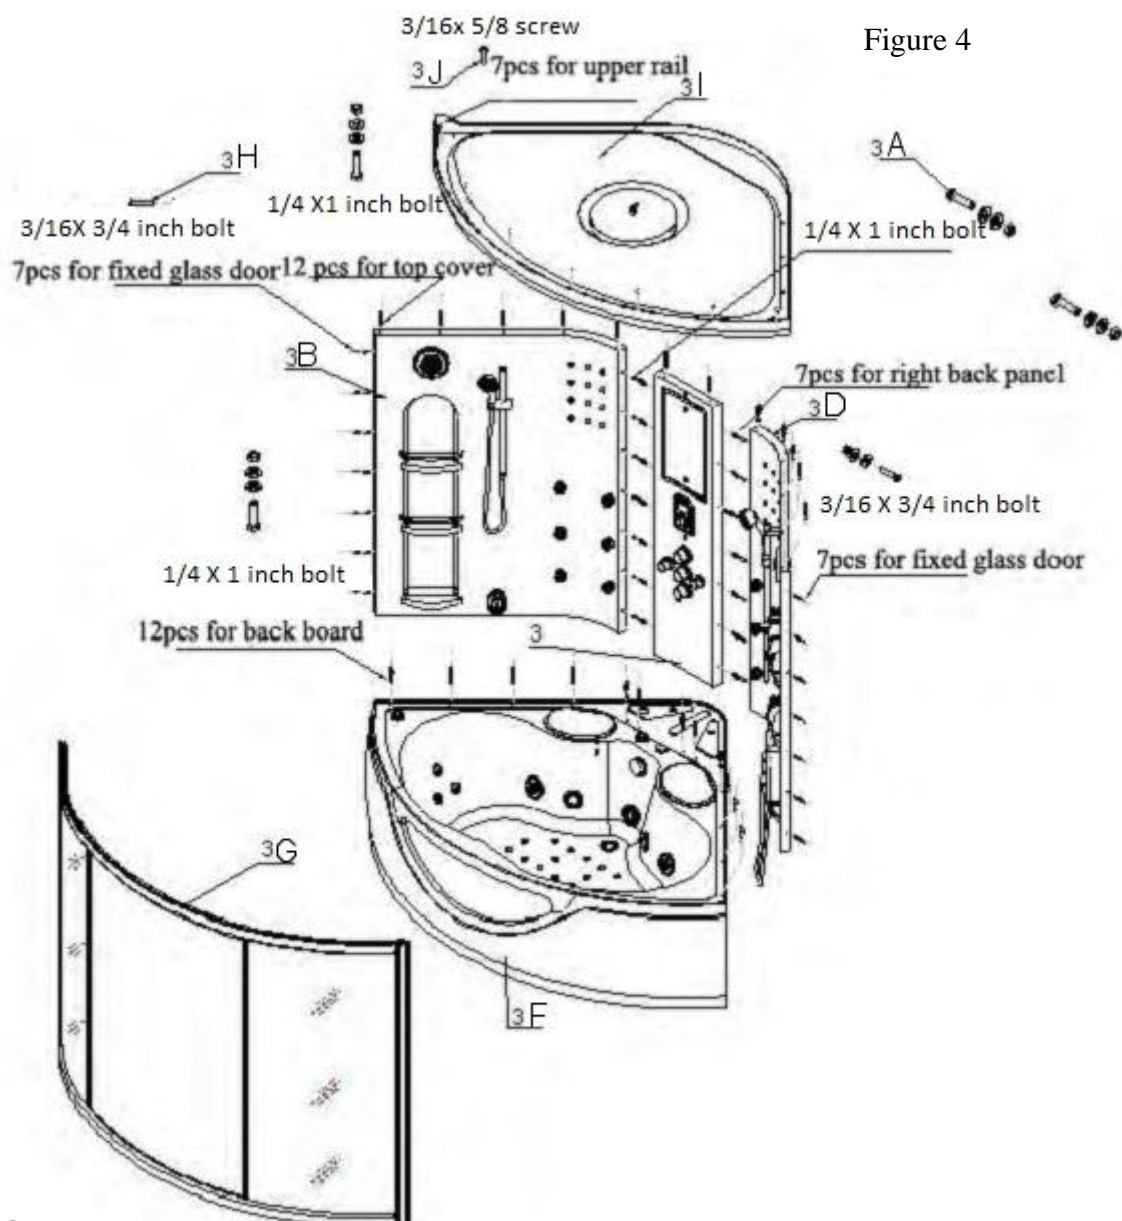

Figure 4
3. Steam room installation diagram, as follows (Figure 4)